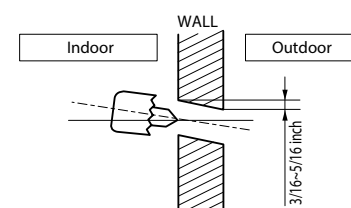

Figure 12: Drill Drain Pipe Hole
1. Refer to Figure 12. Use a hole core drill to make a hole in the wall for the refrigerant and drain piping. Be sure to avoid pipes, wiring, and other obstructions in the wall.